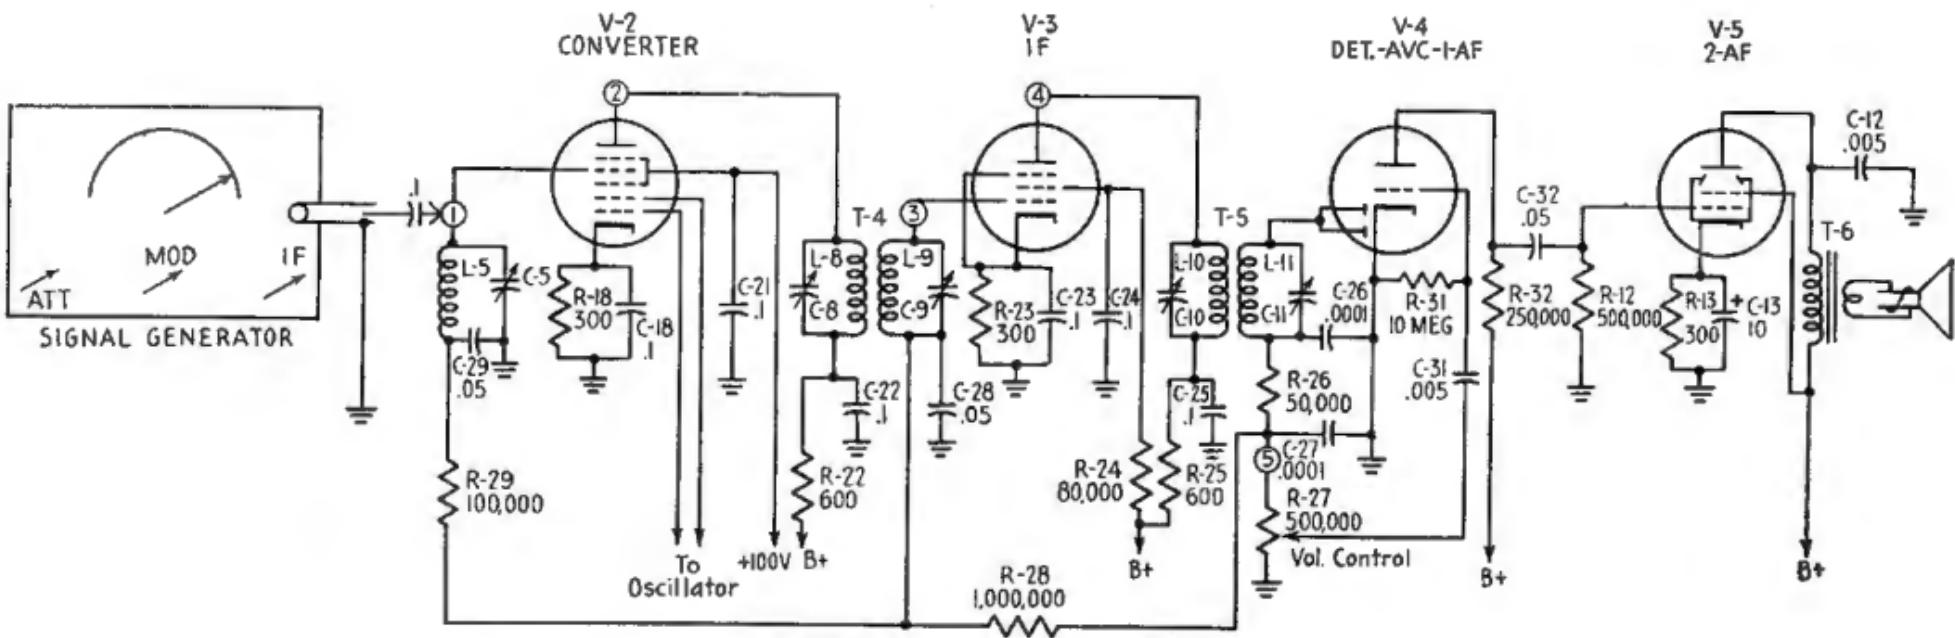

FIG. 13-22.—Signal check for locating trouble in an IF amplifier.
The test oscillator, receiver, and output meter are connected as shown in Fig. 13-22. The signal generator is adjusted for modulated output on the IF band. The receiver is adjusted for maximum volume, minimum bass response, and maximum selectivity (if there is such a control); the RF portion is made inoperative by shorting the oscillator section of the gang tuning condenser. Let us assume normal operation of the audio amplifier, as proved by a normal response when an audio test signal is applied to point (5), the input of the AF amplifier, and no response or weak response when a modulated signal at the intermediate frequency is applied to point (1), the converter signal grid.
STEP 1. The test lead from the signal generator is moved to point (2), the converter plate.
- STEP 2. The test lead from the signal generator is moved to point (3), the IF grid.